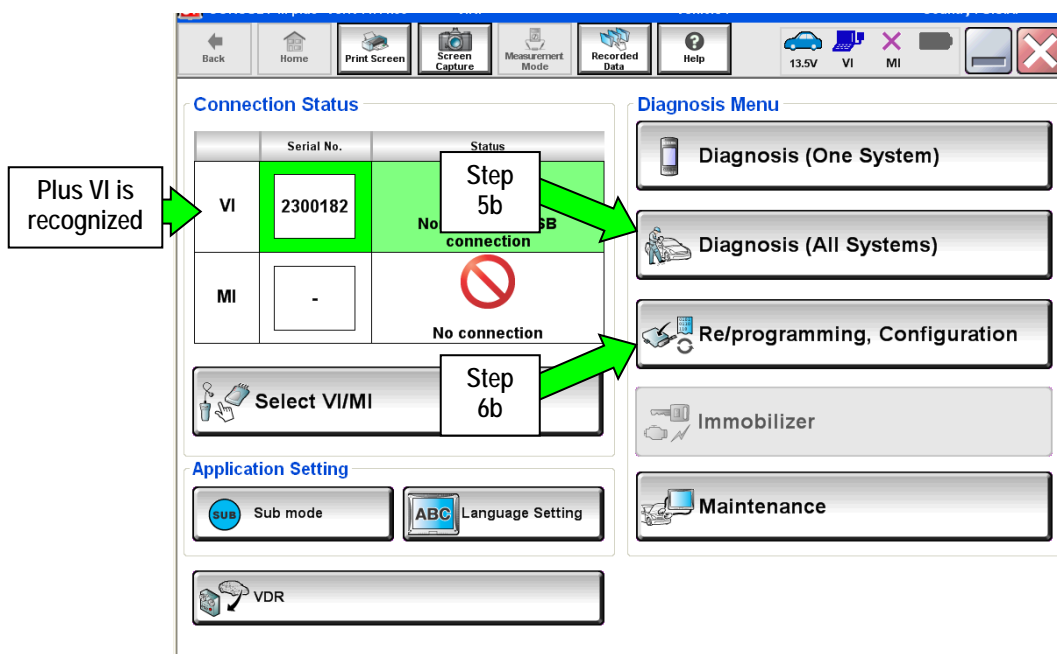

Figure 1
- Select the **Home** button, and then **YES** to return to the screen shown in Figure 1.